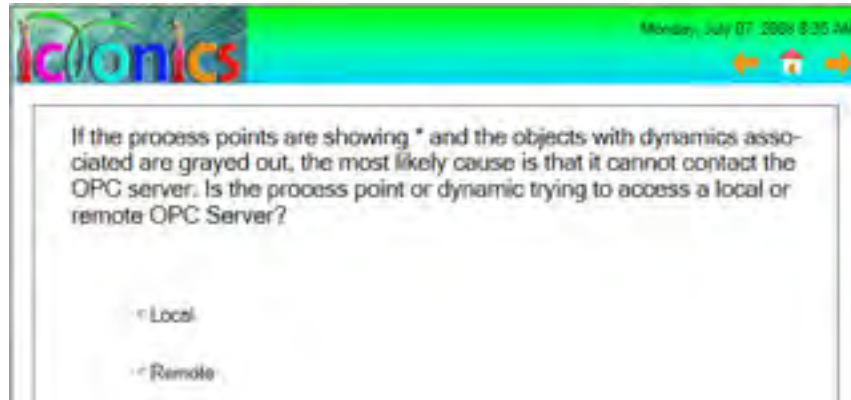

Figure L1.2 - Screen1
10. Configure Screen1 to look similar to Figure L1.2.